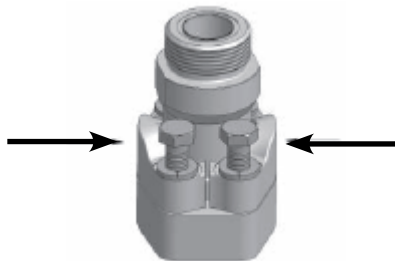

FIGURE 5-41
3. Push the flange clamps toward the flange head and screw fasteners into flange pad. Continue to screw the fasteners until their heads just meet the split flange surface (see Figure 5-41).